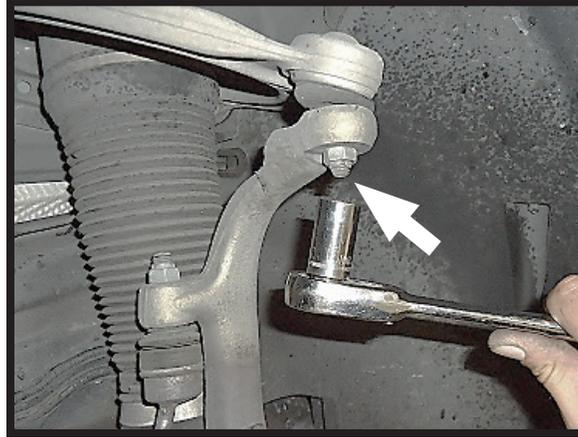

FIGURE 13
8. LOOSEN UPPER CONTROL ARM NUT. (FIGURE 13)